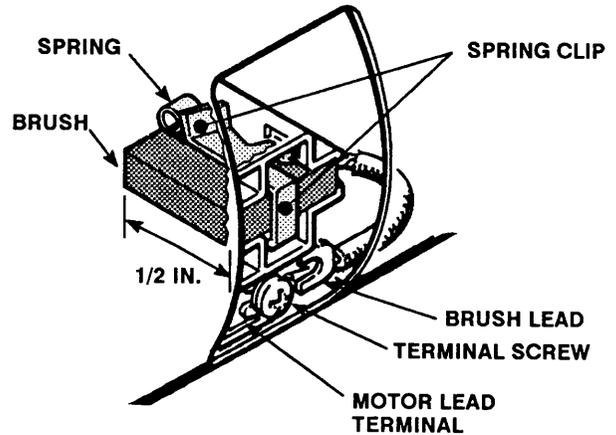
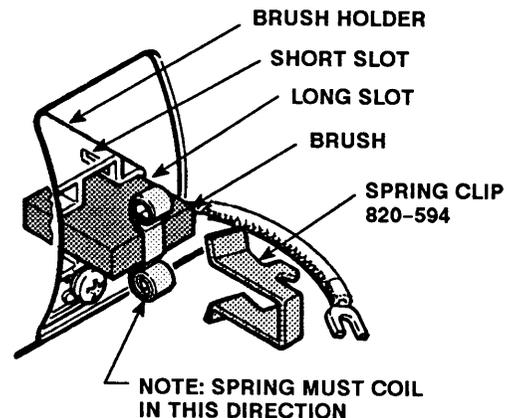

Fig 13
Fig 14
**NOTE:** Replace the brushes when they have worn to less than 1/2 in. See Fig 13. Note that the brushes wear differently on each side of the motor, so check them both. Brush Repair Kit 820-536 and spring clip 820-594 are available.
3. Loosen the brush lead terminal screw. Pull the brush lead away, leaving the motor lead terminal in place. Remove the brush and spring. See Fig 13.
5. Install a new brush so the lead is in the long slot of the holder. See Fig 14. Slide the terminal under the terminal screw washer and tighten the screw. Be sure the motor lead is still connected at the screw. See Fig 13.
6. Place the spring on the brush as shown in Fig 14.